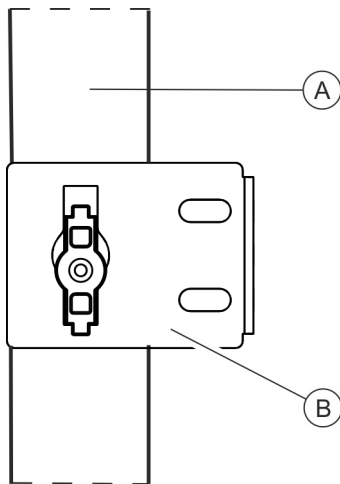

Fig. 14: Installation with mounting brackets
1. ➤ Fit the mounting brackets (Fig. 14/Ⓐ) onto the attachments at the top and bottom of the PDU (Fig. 14/Ⓑ).